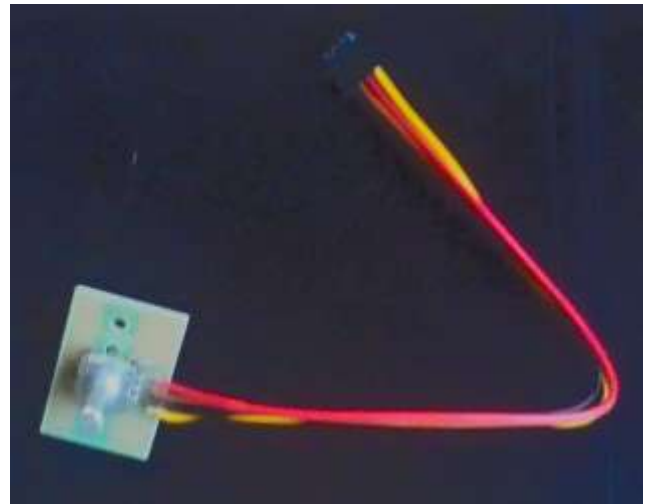

**Figure 3: Digital Interface Board**
2. There is no documentation for this board except for instructions on wiring up the micro USB cable, which I did not have on hand. I'm not sure what the purpose of this board is except to provide a way to connect USB to the Raduino without having to open the case. It's tempting to hook up the audio jacks such that plugging in to them intercepts audio out, microphone in and PTT. Anyway, I wired it up. See figure 3.
Assembling this module was also a half-hour job. But wiring in the USB cable to the four pads on the right in Figure 3 will probably be another half hour, once I get the cable.